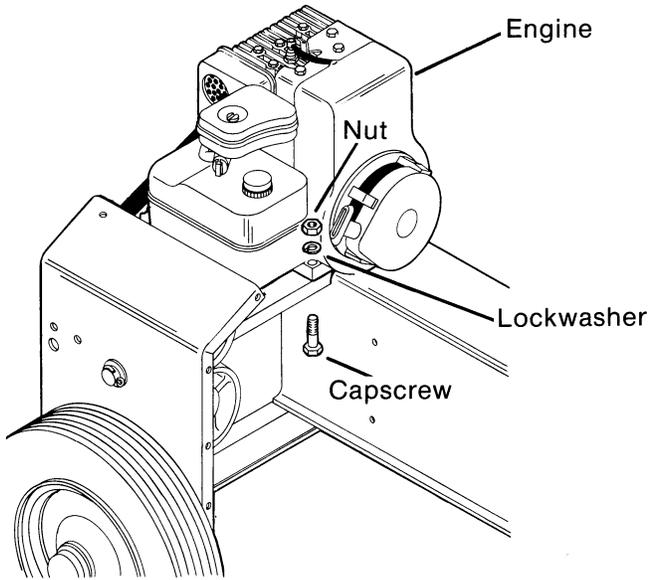

FIG. 4
1. Place engine on top of log splitter in position shown in (Fig. 4). NOTE: Front left corner of engine base mounts on factory assembled "weld bolt".